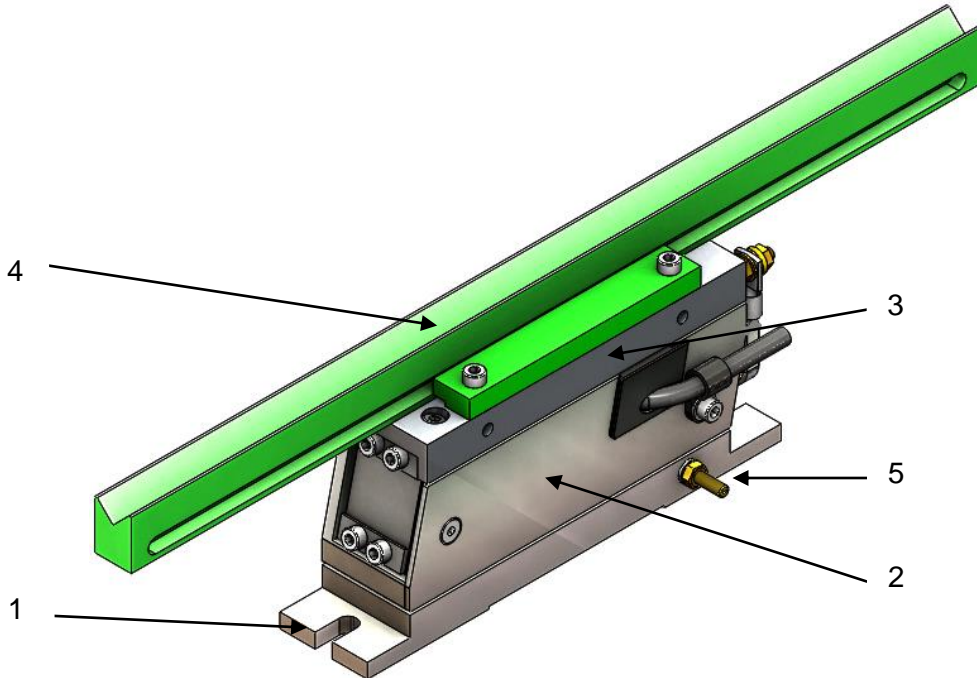

Fig. 4: PARU Mini XS with tooling (shown green)
Fig. 4 illustrates a PARU Mini XS unit with a typical tooling (4) shown green.